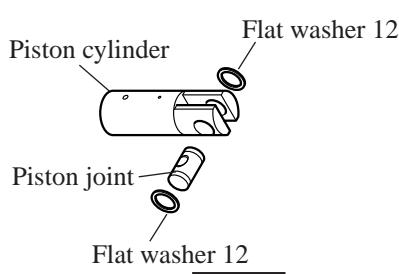

Fig. 11
2. Assemble 2 pcs. of flat washers 12 and piston joint to piston cylinder as illustrated in Fig. 11.